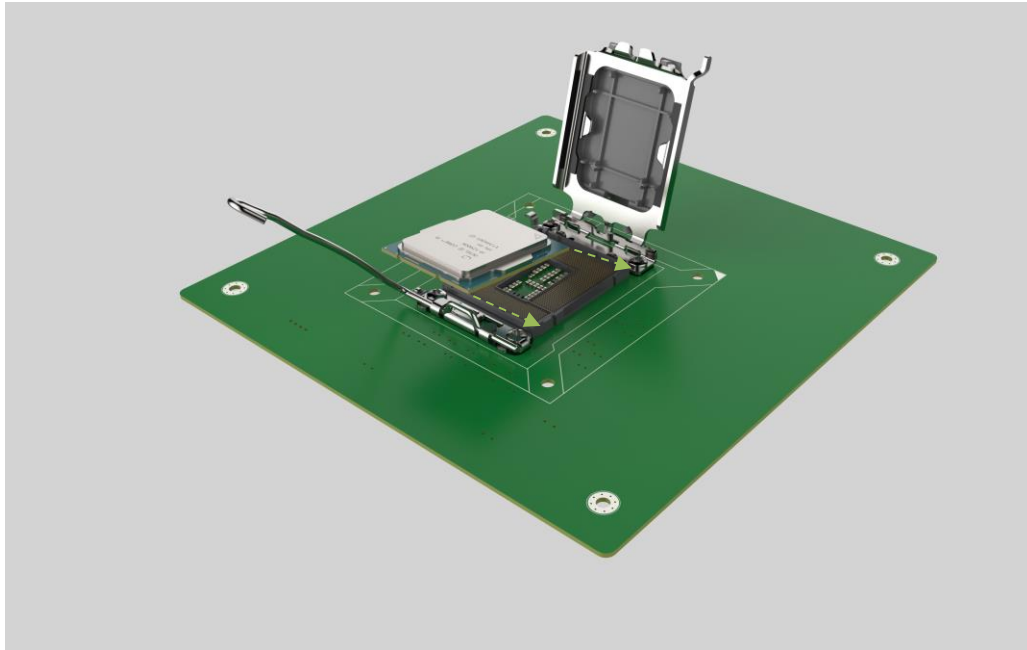

Figure 4-5: Insert The Socket LGA1700 CPU
Step 7: Insert the CPU. Gently insert the CPU into the socket. If the CPU pins are properly aligned, the CPU should slide into the CPU socket smoothly. See **Figure 4-5**.